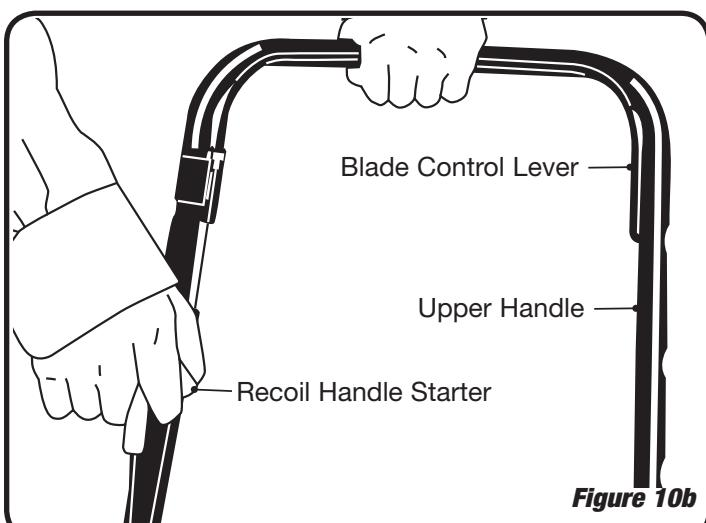

Figure 10b
2. Stand behind the mower handle, grasp the blade control lever – holding it firmly against the upper handle. See fig. 10b.